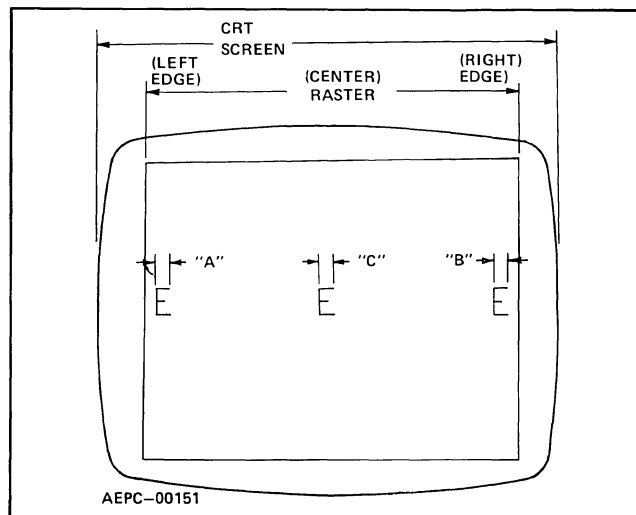

Figure 5-47. Linearity adjustment raster display.
8. (Refer to Figure 5-47.) Observe the extreme left-hand edge characters on the display screen (designated "A" in Figure 5-47). The width of these characters should be equal to the width of the right-hand edge characters (designated "B" in Figure 5-47). If character "A" is wider than character "B", the copper sleeve is extending out too far. If "A" is narrower than "B", the copper sleeve should be pulled out further. Either way, the copper sleeve may have to be repositioned by trial and error if exposing 1/8 inch (3.2 mm) of copper does not provide the desired linearity. Repeat steps 1 through 7, each time adjusting the amount of exposed copper, until the width of character "A" is equal to the width of character "B".
9. With the DAS mainframe turned on, observe the width of a character in the center of the CRT screen (designated "C" in Figure 5-47). It should be narrower than characters "A" and "B".